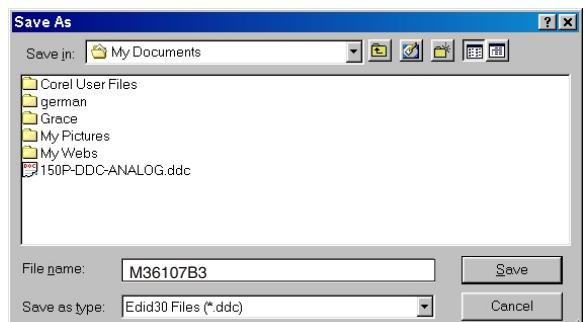

Fig. 19
1. Click  (Save) icon (or click "file-> save as") from the tool bar and give a file name as shown in Fig. 19. The file type is EDID301 file (*.ddc) which can be open in WordPad. By using WordPad, the texts of DDC data & table (128 bytes, hex code) can be modified. If DDC TEXTS & HEX Table are completely correct, it can be saved as .ddc file to re-load it into EEPROM for DDC Data application.